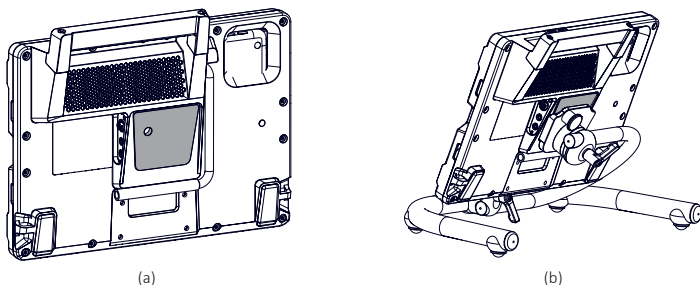

Figure 4.6 (a) UDS adapter plate ⑱, and (b) Rehadapter™ mounted on a Rehadapt table stand°
In addition, the Rehadapter™ can be mounted on any Universal Device Socket (UDS) manufactured by Rehadapt Engineering using the device adapter plate ⑱ (Fig. 3.1 Rehadapter™ Overview), as illustrated on Fig. 4.6.